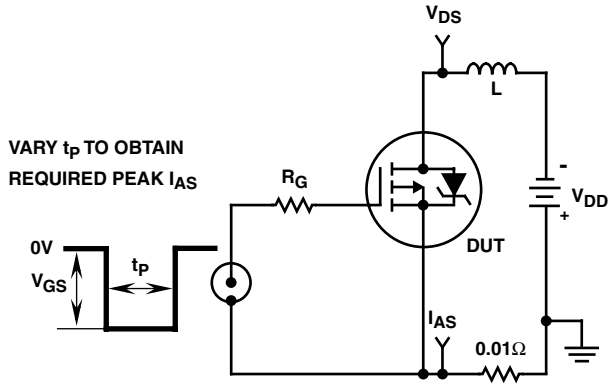

FIGURE 15. UNCLAMPED ENERGY TEST CIRCUIT
4.  $V_{DD} = 50V$ , starting  $T_J = 25^{\circ}C$ ,  $L = 9.8mH$ ,  $R_G = 25\Omega$ , peak  $I_{AS} = 11A$ . See Figures 15, 16.